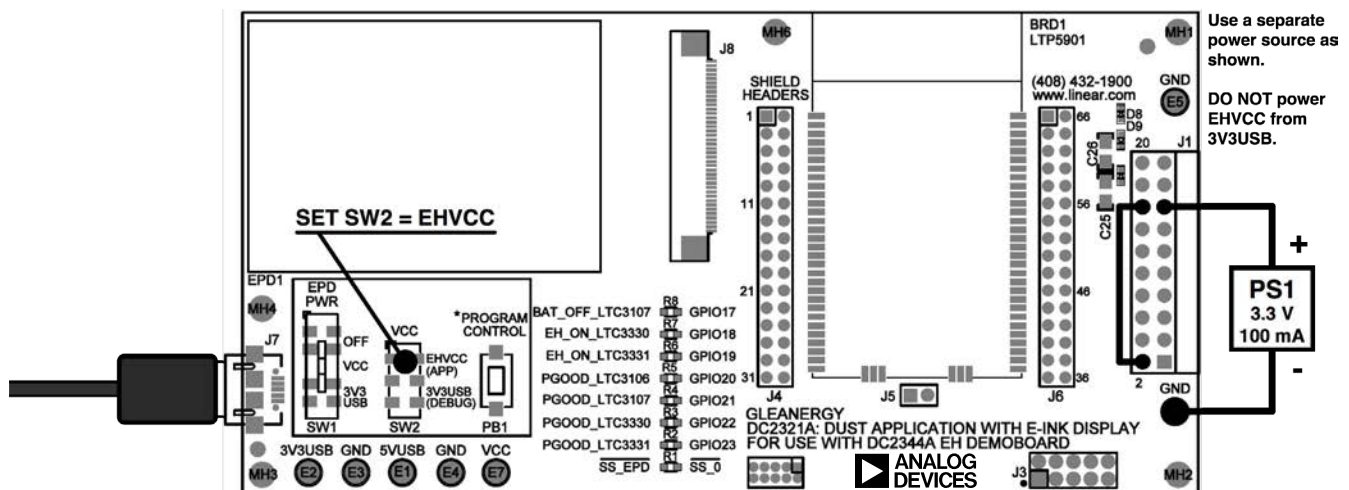

Figure 5. Configuring DC2321A to Measure Application Energy Consumption
2. Configure the board as shown in Figure 5. This routes the board's power supply through the primary battery's coulomb counter.